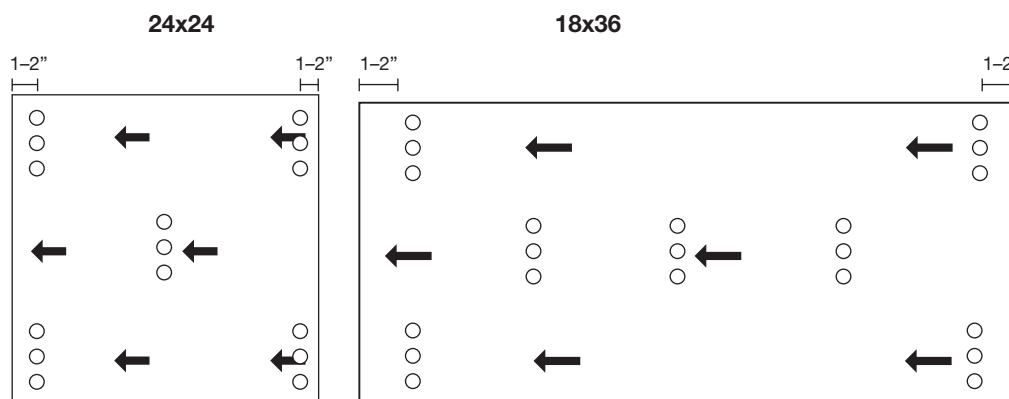

Figure 4
- Carpet tiles come in various sizes. Shaw's Ecoworx tiles are offered in 24" squares or 18" x 36" rectangles. Both have directional arrows on the back of the tile. This facilitates the installation method which is based on the requirements of the product, or the preference of the customer. **See Figure 4**
- Apply LokDots adhesive tabs to the back of each tile in the pattern shown in **Figure 4**. We recommend starting approx 2" from the edge of the tile and moving down the tile perpendicular to the directional arrows. We recommend applying adhesive tabs in a series of 3 tabs in each corner, and in the middle for 24" tiles for an average of 15 per tile. The 18 x 36 tiles has 3 rows in the middle due to its longer length for a total of 21 tabs per tile.